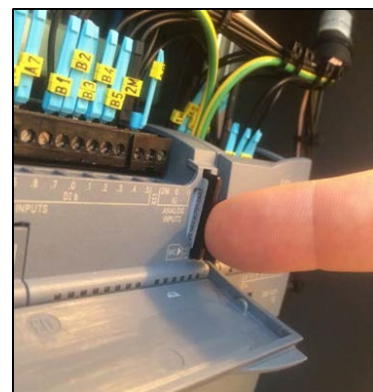

Figure 2 – Press the SD Card inwards
1.3 Remove the SD Card by gently pressing the SD Card inwards and releasing it (See Figure 2). The SD Card slot is sprung-loaded, and the SD Card releases.